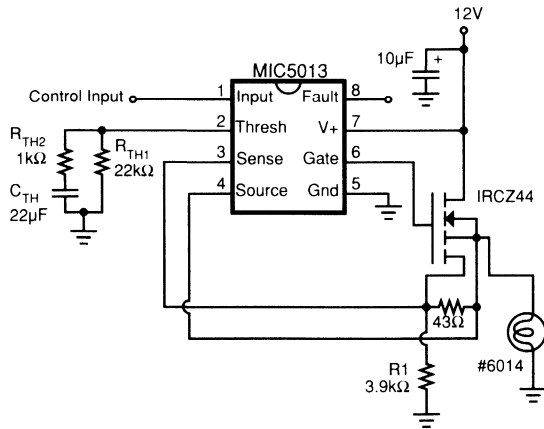

Figure 5. Time-Variable Trip Threshold
**High-Side Driver with Current Sensing MOSFET** (Figure 5). The design starts by determining the value of "S" and "R" for the MOSFET (use the guidelines described for the low-side version). Let  $V_{TRIP} = 100mV$ , and calculate  $R_S$  for a desired trip current. Next calculate  $R_{TH}$  and R1. The trip point is somewhat reduced when the output is at ground as the voltage drop across R1 is zero. No clamping is required for inductive loads, but may be added to reduce power dissipation in the MOSFET.
The MIC5013 over-current shutdown circuit is designed to handle this situation by varying the trip point with time (see Figure 5).  $R_{TH1}$  functions in the conventional manner, providing a current limit of approximately twice that required by the lamp.  $R_{TH2}$  acts to increase the current limit at turn-on to approximately 10 times the steady-state lamp current. The high initial trip point decays away according to a 20ms time constant contributed by  $C_{TH}$ .  $R_{TH2}$  could be eliminated with  $C_{TH}$  working against the internal 1kΩ resistor, but this results in a very high over-current threshold. As a rule of thumb design the over-current circuitry in the conventional manner, then add the  $R_{TH2}/C_{TH}$  network to allow for lamp start-up. Let  $R_{TH2} = (R_{TH1} \div 10) - 1k\Omega$ , and choose a capacitor that provides the desired time constant working against  $R_{TH2}$  and the internal 1kΩ resistor.